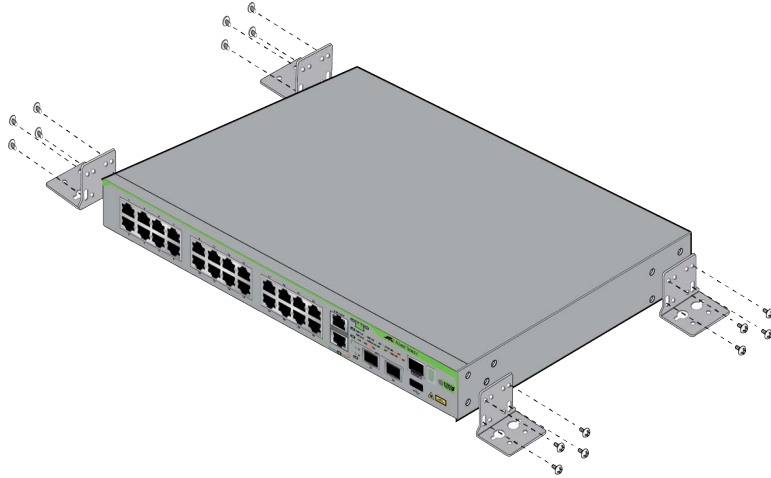

Figure 60. Attaching the BRKT-J24 Wall Brackets to the GS970EMX/20 and GS970EMX/28 Switches
2. For the GS970EMX/20 and GS970EMX/28 Switches, attach the four BRKT-J24 wall brackets to the sides of the switch, with the sixteen M4x6mm screws included in the kit. Refer to Figure 60 on page 102.